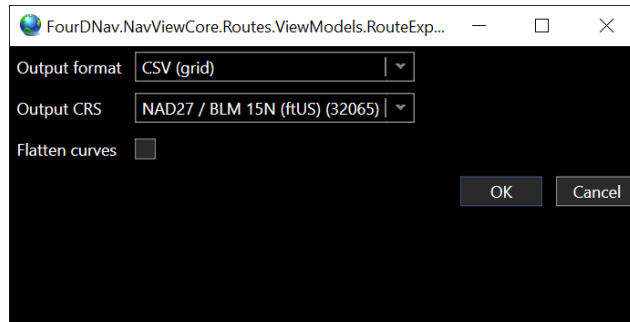

FIGURE 9-27 PIPELINES – EXPORT CONFIGURATION DIALOG
- Click the Export Button, this will open an export configuration dialog (see Figure 9-27)